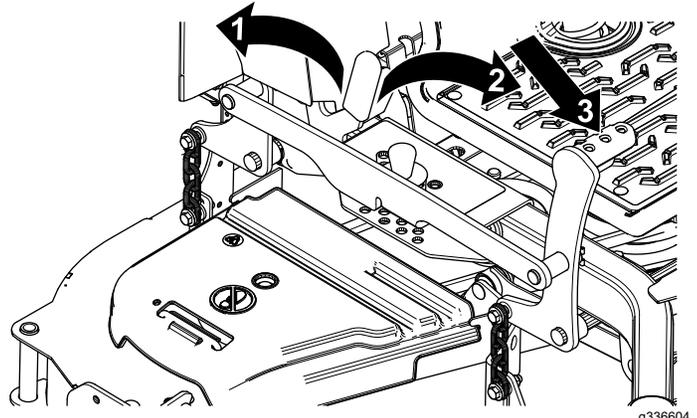

Figure 33
1. Push on the deck-lift pedal using your foot to raise the mower deck (Figure 33).
2. Push the transport-lock lever forward to unlock the transport lock; push the transport-lock lever rearward to lock the transport lock (Figure 33).
1. Move the transport lock to the LOCK position (Figure 33).